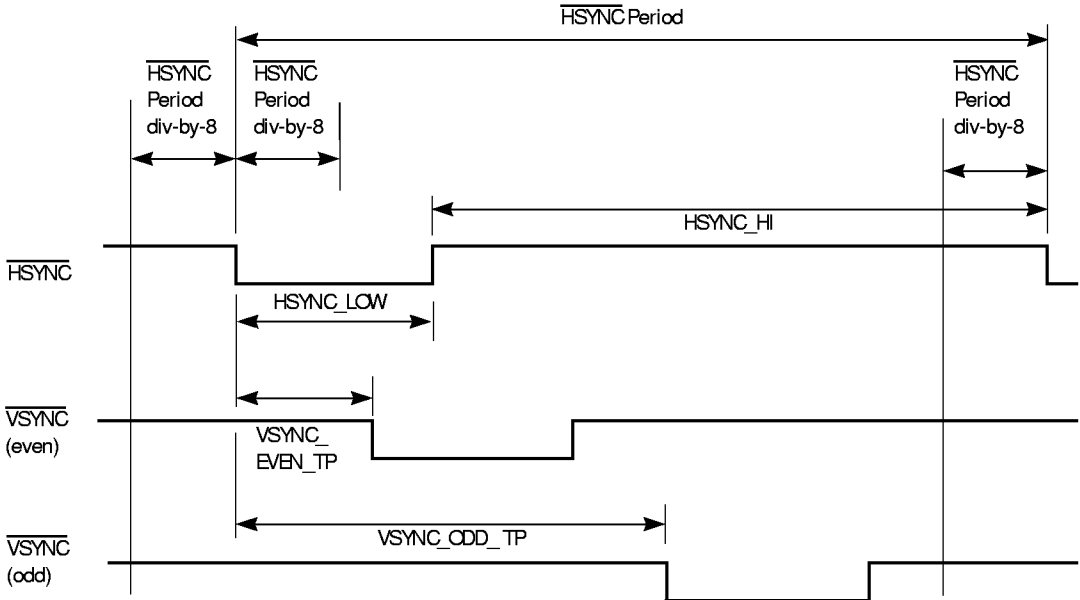

Figure 7-5 $\overline{\text{HSYNC}}$ and $\overline{\text{VSYNC}}$ Timing
- *\overline{HSYNC} LOW Time*: NTSC_HSYNC_LO and PAL_HSYNC_LO parameters specify the time \overline{HSYNC} is LOW for both NTSC and PAL, respectively (see Figure 7-5).
- *\overline{HSYNC} HIGH Time*: NTSC_HSYNC_HI and PAL_HSYNC_HI parameters specify when \overline{HSYNC} is HIGH for both NTSC and PAL, respectively (see Figure 7-5).
- *\overline{VSYNC} LOW Relative to \overline{HSYNC} LOW for Bottom Field Only*: VSYNC_EVEN_TP and VSYNC_ODD_TP specify the position relative to \overline{HSYNC} going LOW (for both even and odd fields, respectively) that \overline{VSYNC} will go LOW for the bottom field (see Figure 7-5).
The position of the leading edge of the $\overline{\text{VSYNC}}$ signal is examined relative to a window whose width is approximately one-eighth the $\overline{\text{HSYNC}}$ period centered about the leading edge of the $\overline{\text{HSYNC}}$ signal, as shown in the top portion of Figure 7-5.